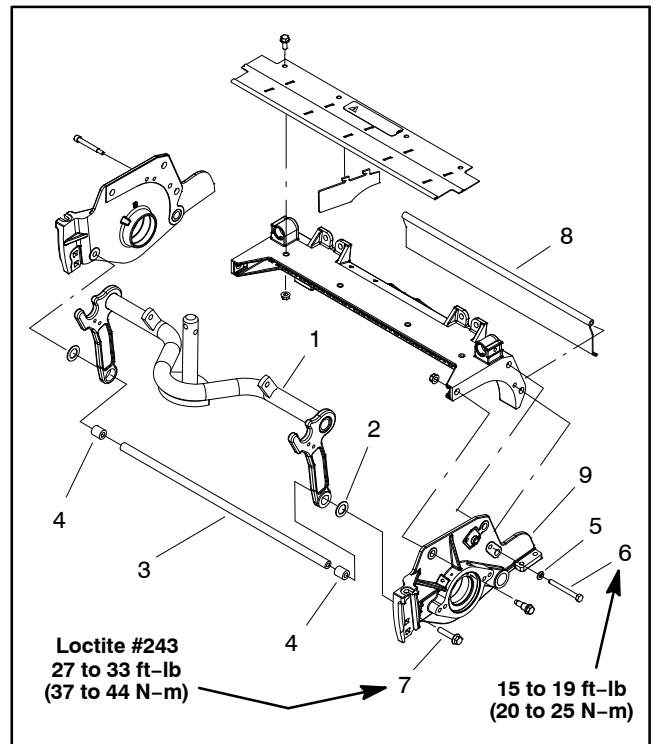

Figure 34
7. Remove cap screw and flat washer that secure rear grass shield to LH side plate (Fig. 34).
8. Remove flange head screw that secures support tube, frame spacer and carrier frame to LH side plate (Fig. 34).
4. On LH side plate, loosen set screw (item 20) and back-off (loosen) bearing adjuster nut one complete turn.
6. Install shoulder bolts (item 7) and flange nuts that secure the LH side plate to the cutting unit frame. Torque the shoulder bolts from **27 to 33 ft-lbs (37 to 44 N-m)**.
7. Apply Loctite #243 (or equivalent) to threads of flange head screw that secures support tube, frame spacer and carrier frame to LH side plate (Fig. 34). Install screw and torque from **27 to 33 ft-lbs (37 to 44 N-m)**. After tightening screw, check the clearance between the carrier frame and side plate. If clearance is more than 0.090" (2.3 mm), remove flange head screw and position shim(s) (part number 67-9410) between carrier frame and side plate so that clearance is less than 0.090" (2.3 mm). Make sure that the carrier frame pivots freely after assembly.
8. Install cap screw and flat washer that secure rear grass shield to LH side plate (Fig. 34). Torque screw from **15 to 19 ft-lbs (20 to 25 N-m)**.